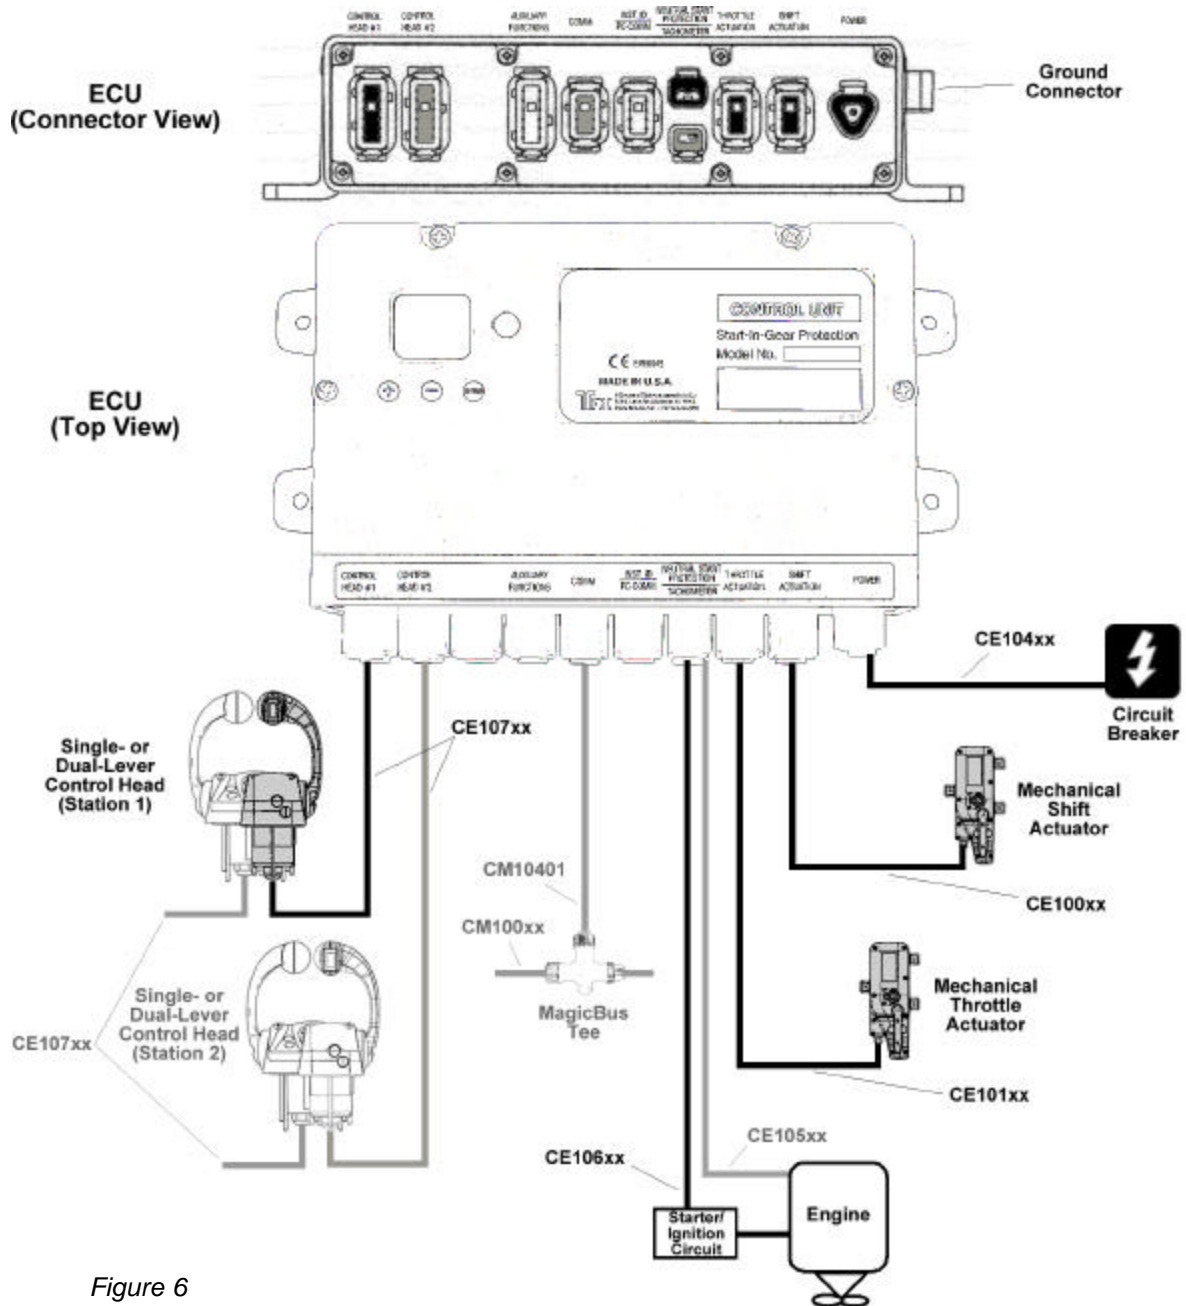

Figure 6
Before proceeding, make sure you have the correct number and lengths of wire harnesses to complete the installation. If you are unsure or need to order harnesses, review the instructions under “Additional Tools and Items You’ll Need” on page 11. Refer to Figure 6 when connecting components.
2. If installing MagicBus™ tachometer(s), follow the tachometer’s installation instructions then connect the free end of each tachometer or interface cable to the perpendicular connector of a MagicBus™ Tee. On each ECU, connect a Tachometer Sensor harness (part no. CE105xx, see Fig. 6, page 28) from the ECU connector marked “TACHOMETER” (located below “NEUTRAL START PROTECTION” connector) to the corresponding engine’s tachometer sensor connector, according to the engine manufacturer’s instructions.